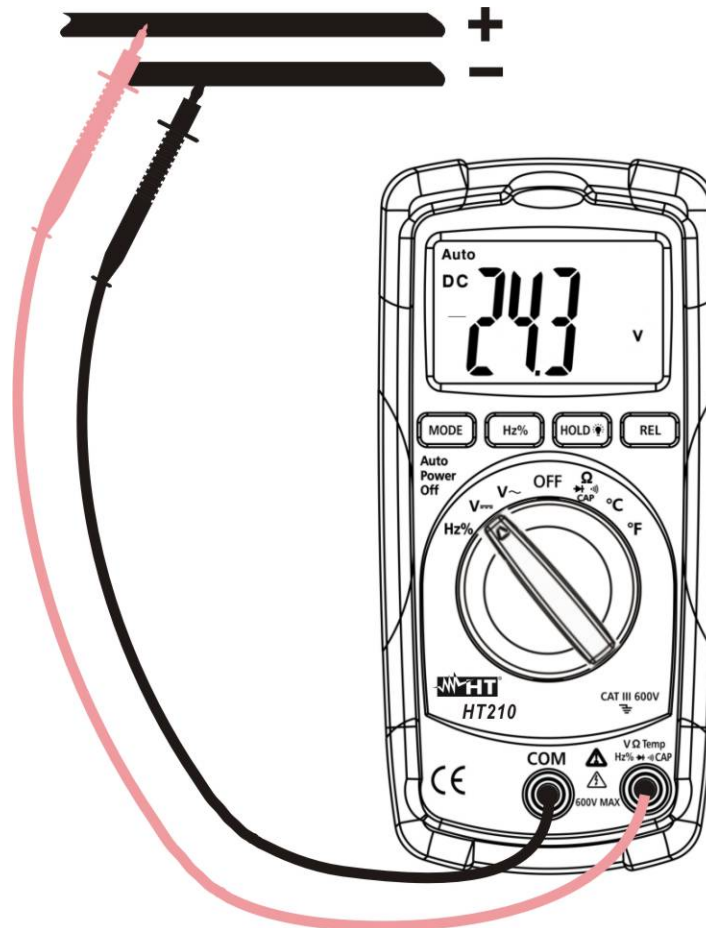

Fig. 2: Using the meter for DC voltage measurement
2. Insert the test leads into the jacks, the red plug into **VΩTempHz%CAP** jack and black plug into **COM** jack (see Fig. 2)
5. The symbol "-" on the instrument display indicates that voltage has opposite direction with regard to the connection of Fig. 2